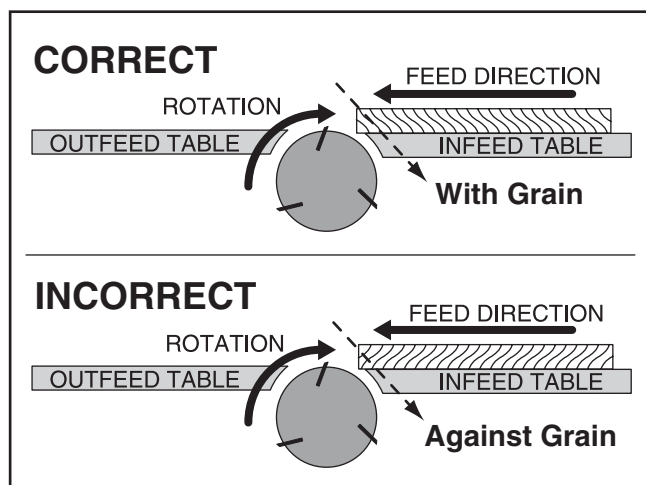

Figure 31. Proper grain alignment with the cutterhead.
- **Jointing and surface planing with the grain is safer for the operator and produces a better finish.** Cutting against the grain increases the likelihood of kickback and workpiece tear-out. DO NOT cut against the grain! Cutting with the grain is feeding the stock across the cutterhead so the grain points down and back, as viewed from the front edge of the stock (see **Figure 31**).